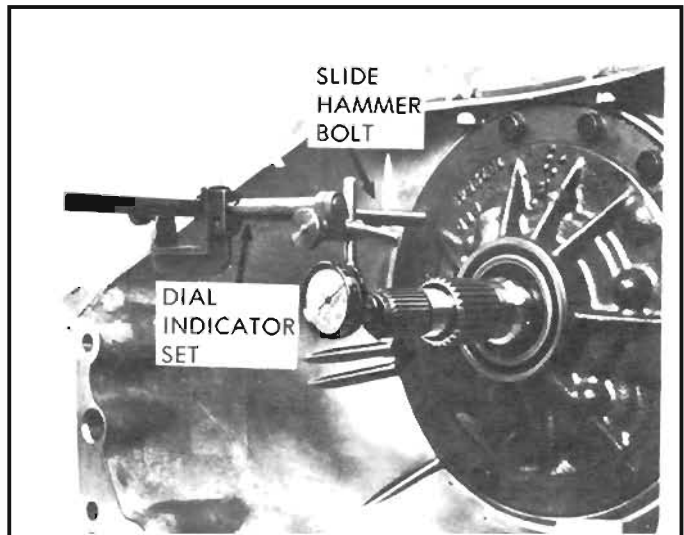

Figure 98 Checking End Play Output Shaft Sleeve and "O" Ring
5. Checking direct clutch to oil pump clearance, attach slide hammer bolt to threaded hole in oil pump. See Figure 98. With flat of hand on end of input shaft move shaft rearward. Install Dial Indicator Set J-8001 on rod and "O" dial indicator on end of input shaft.